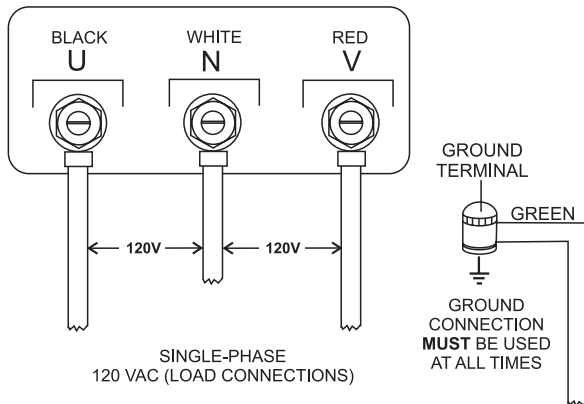

Figure 12. UNV Output Terminal Lugs Single-Phase 120-Volt Connections
1. Connect the load wires to the output terminal lugs as shown in Figure 12.